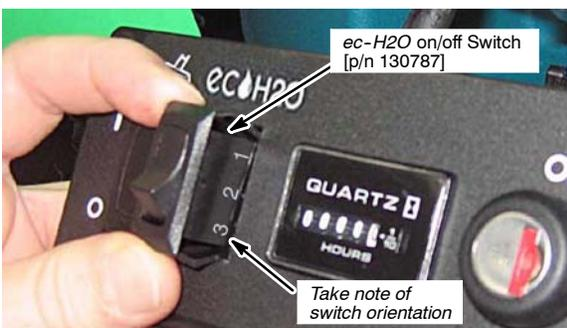

Fig. 21
- Install the ec-H2O on/off switch [p/n 130787] as shown (Figure 21).